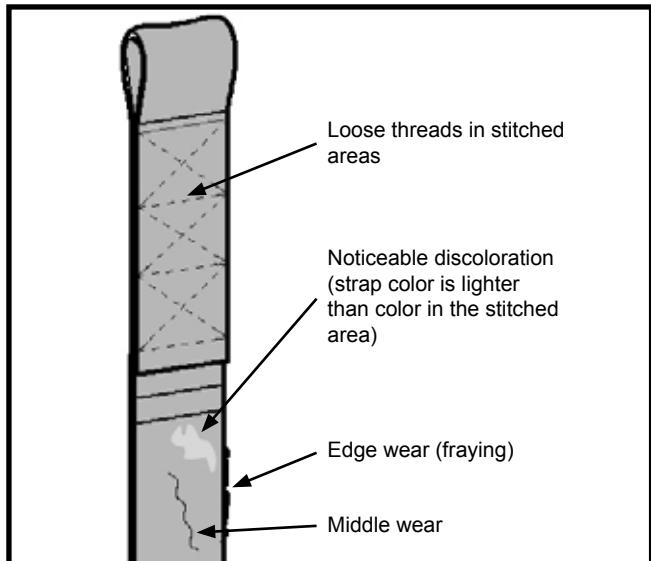

Fig. 17
- 2) Look for any signs of wear or discoloration (see Fig. 17 below).